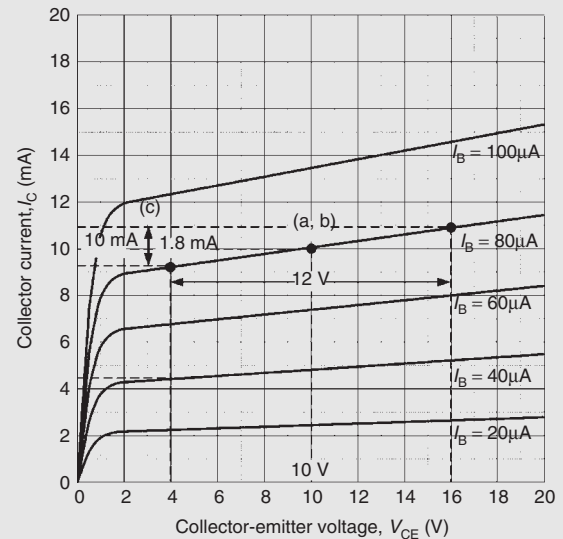

Figure 12.14
Problem 4. Figure 12.14 shows the output characteristic for an n-p-n silicon transistor. When the collector-emitter voltage is 10 V and the base current is $80 \mu\text{A}$, determine (a) the value of collector current, (b) the static value of output resistance, and (c) the dynamic value of output resistance.
- (a) From Fig. 12.14, when $V_{CE} = 10$ V and $I_B = 80 \mu\text{A}$, (i.e. point (a, b) on the graph), the **collector current, $I_C = 10 \text{ mA}$**